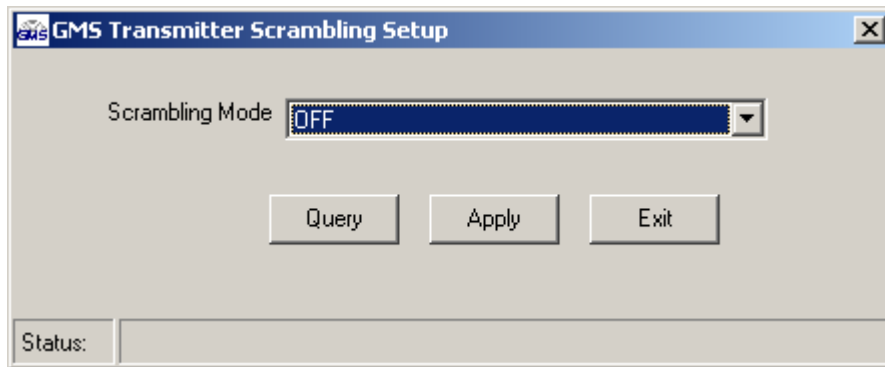

Figure 6A - Scrambling Mode Setup
- **Scrambling Mode (Option, this menu not available if option is not purchased)** – This pull down menu displays the following (see Figure 6A & 6B):